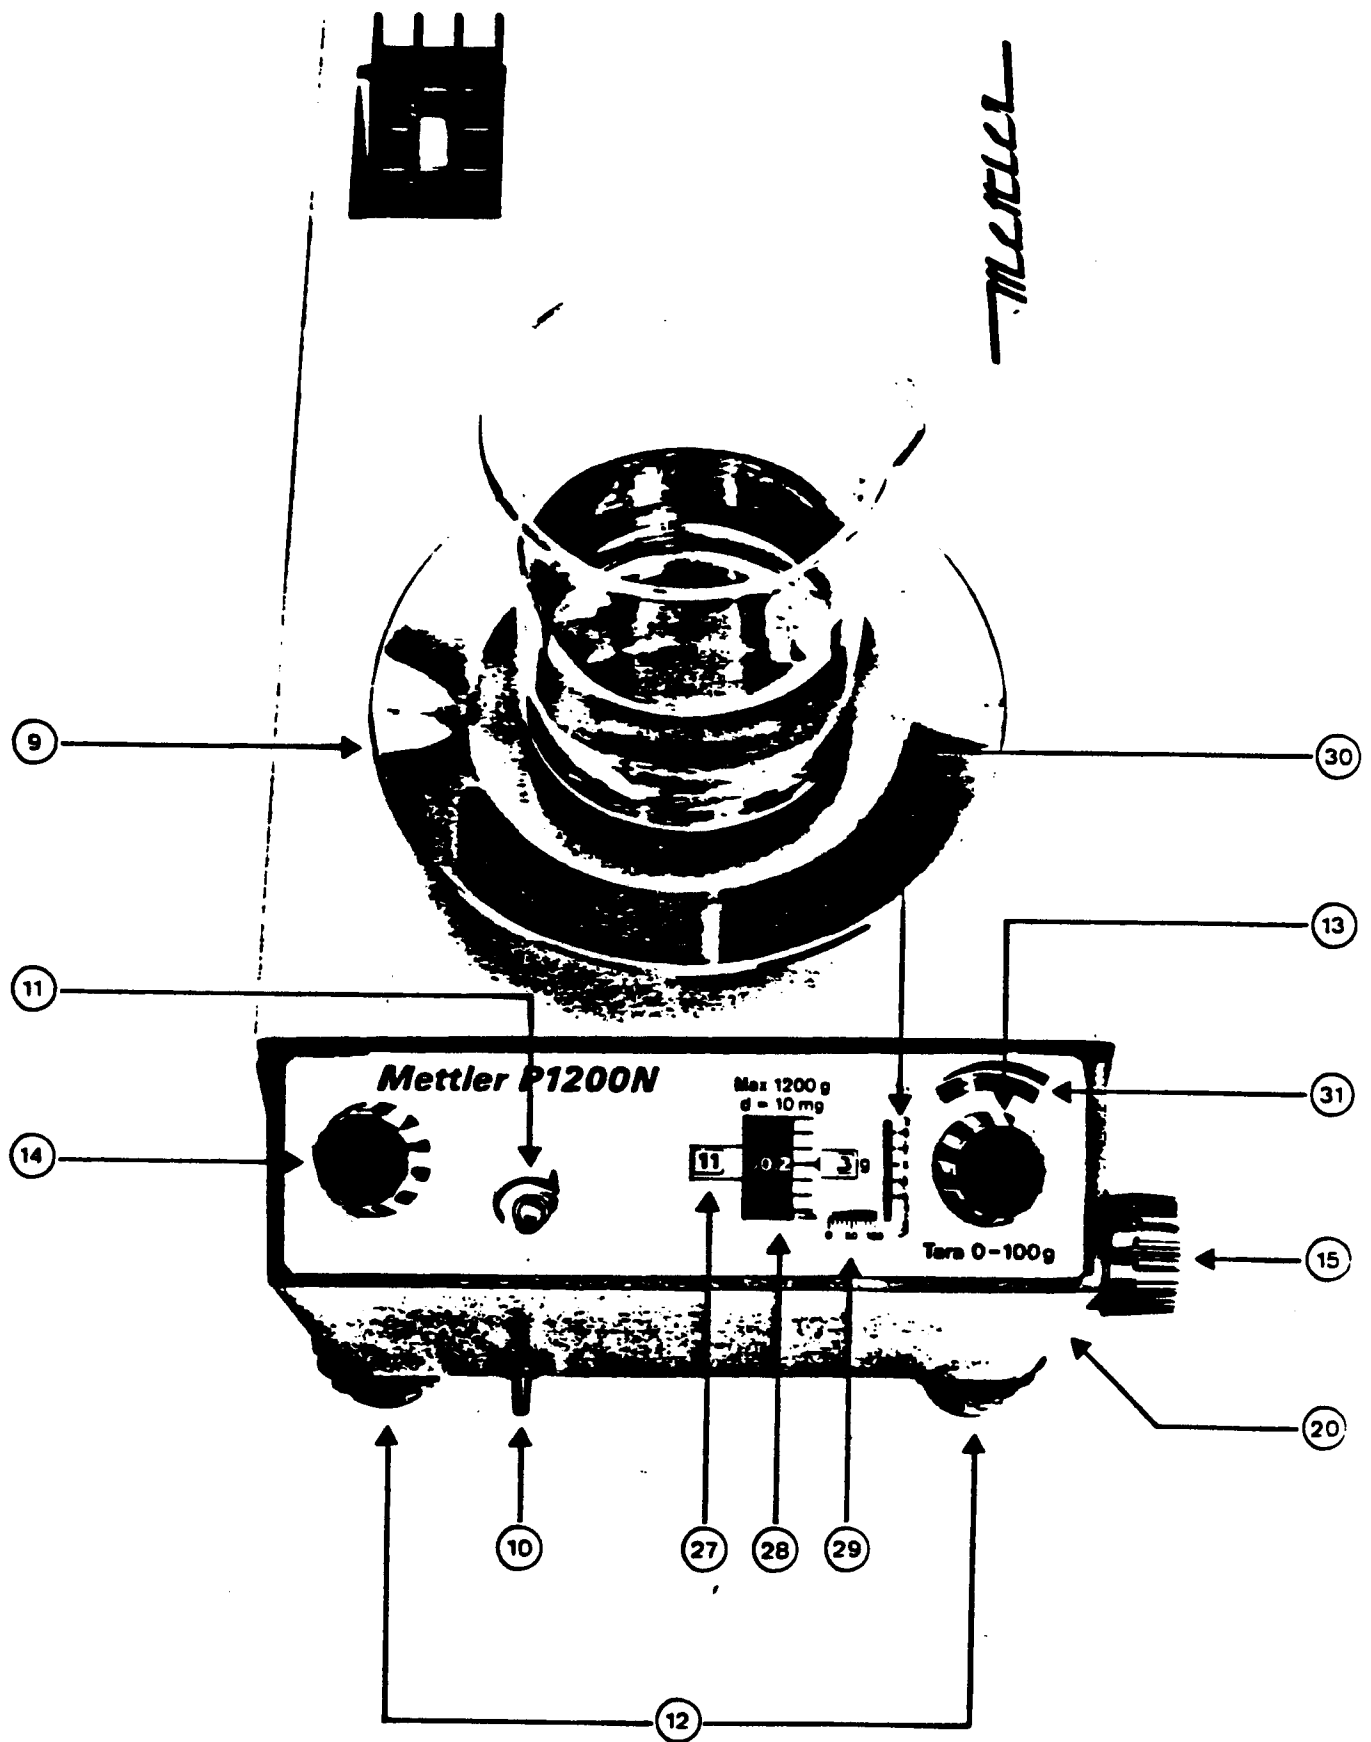

Figure 1. General view of the Mettler PL1200
3.1 Place a standard 100 g weight (± 0.2 g) on pan and set built-in weight control knob ("14" on general view, Figure 1) to "1".
3.2 Adjust to exact zero with zero-adjustment disk ("20" on general view, Figure 1).
Legend for Figure 1